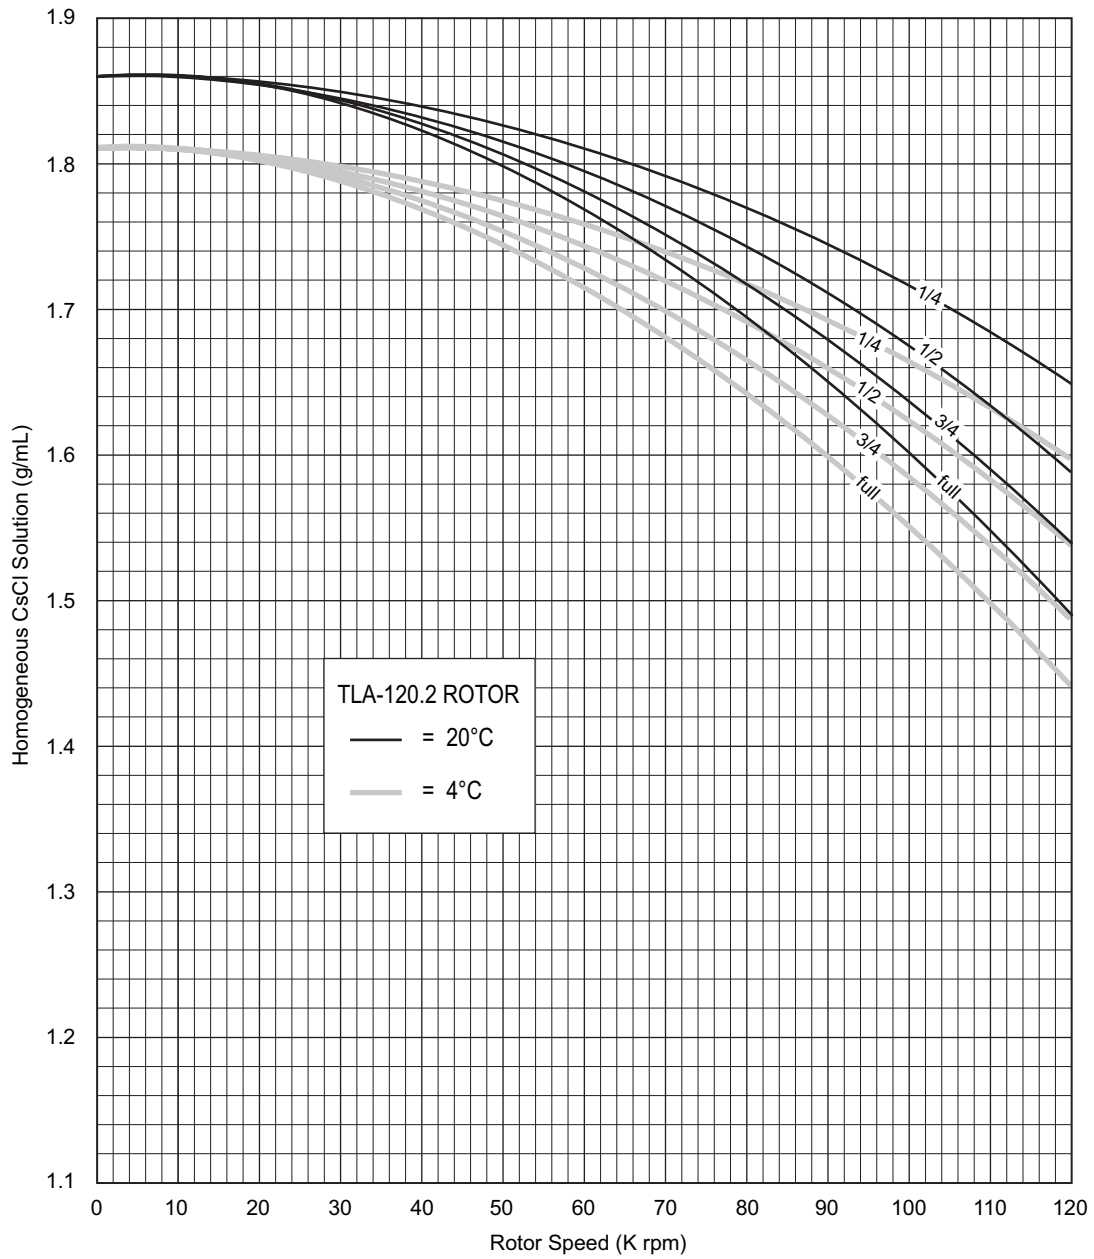

Figure 3. Precipitation Curves for the TLA-120.2 Rotor.
2. *Further speed limits must be imposed* when CsCl or other self-forming-gradient salts are centrifuged, as equation (6) does not predict concentration limits/speeds that are required to avoid precipitation of salt crystals. Precipitation during centrifugation would alter the density distribution of CsCl and this would change the position of the sample bands. Figures 3 and 4, together with the description and examples below, show how to reduce run speeds when using CsCl gradients.
Precipitation during centrifugation would alter density distribution, and this would change the position of the sample bands. Curves in Figures 3 and 4 are provided up to the maximum rated speed of the rotor. (Curves in Figures 3 and 4 were generated using the 1.5-mL Quick-Seal tube.)
The curves in Figures 3 and 4 are for solutions of CsCl salt dissolved in distilled water only. If other salts are present in significant concentrations, the overall CsCl concentration may need to be reduced.
Rotor speed is used to control the slope of a CsCl density gradient, and must be limited so that CsCl precipitation is avoided. Speed and density combinations that intersect on or below the curves in Figure 3 ensure that CsCl will not precipitate during centrifugation in the TLA-120.2 rotor. Curves are provided at two temperatures: 20°C (black curves) and 4°C (gray curves).
The reference curves in Figure 4 show gradient distribution at equilibrium. Each curve in Figure 4 is within the density limits allowed for the TLA-120.2 rotor: each curve was generated for a single run speed using the maximum allowable homogeneous CsCl densities (one for each fill level) that avoid precipitation at that speed. (The gradients in Figure 4 can be generated from step or linear gradients, or from homogeneous solutions. But the total amount of CsCl in solution must be equivalent to a homogeneous solution corresponding to the concentrations specified in Figure 3). Figure 4 can also be used to approximate the banding positions of sample particles.
Figures 3 and 4 show that several fill volumes are possible in a tube. If a tube is partially filled with gradient solution, float mineral oil (or some other low-density, immiscible liquid) on top of the tube contents to fill the tube to its maximum volume. Note that for a given CsCl density, as the fill level decreases the maximum allowable speed increases. Partial filling may be desirable when there is little sample or when you wish to shorten the run time.
Centrifugation of homogeneous CsCl solutions at the maximum allowable speeds (from Figure 3) results in gradients presented here.
1. In Figure 3, find the curve that corresponds to the required run temperature (20°C) and fill volume (full). The maximum allowable rotor speed is determined from the point where this curve intersects the homogeneous CsCl density (110 000 rpm).